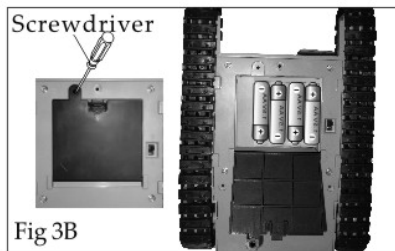

Fig 3B
2. Please screw out the cover at the back of car by screwdriver open the cover as the arrow showed insert 4pcs of 1.5 V AA batteries, then screw the cover (Fig 3B).